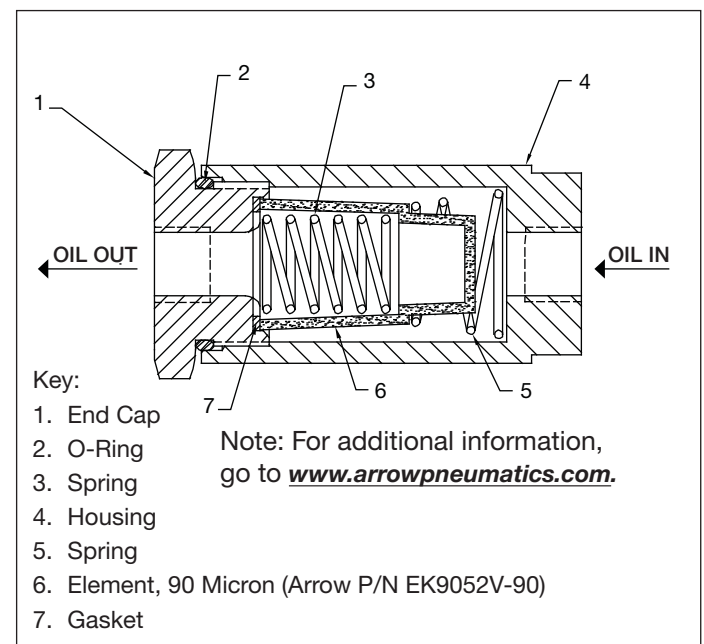

Figure 9, Hydraulic Return Line Filter
6.3 Hydraulic Return Line Filter (See Figure 9)